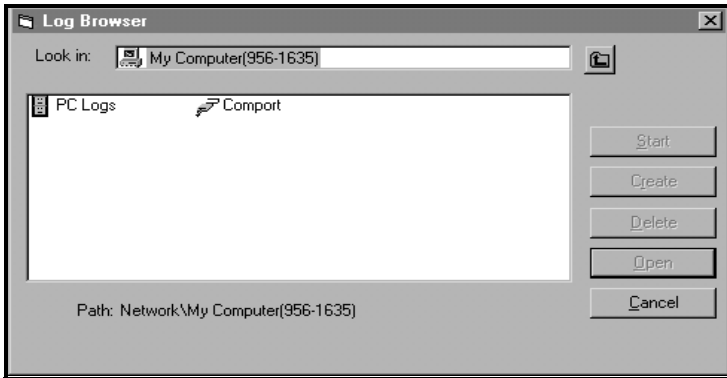

Figure 77: Log Type Selection
2. Double click on the *computer name* to advance to the dialog box shown in Figure 77.